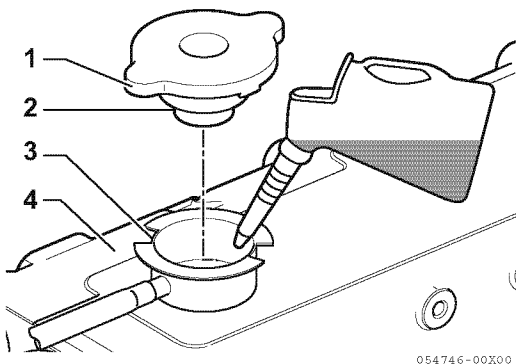

Figure 18
3. Pour coolant slowly into coolant tank (**Figure 18, (4)**) to avoid air bubbles. Fill until coolant overflows from the filler port.
4. Align filler cap tabs (**Figure 18, (1)**) with filler port notches (**Figure 18, (3)**) and tighten filler cap (**Figure 18, (2)**) firmly.